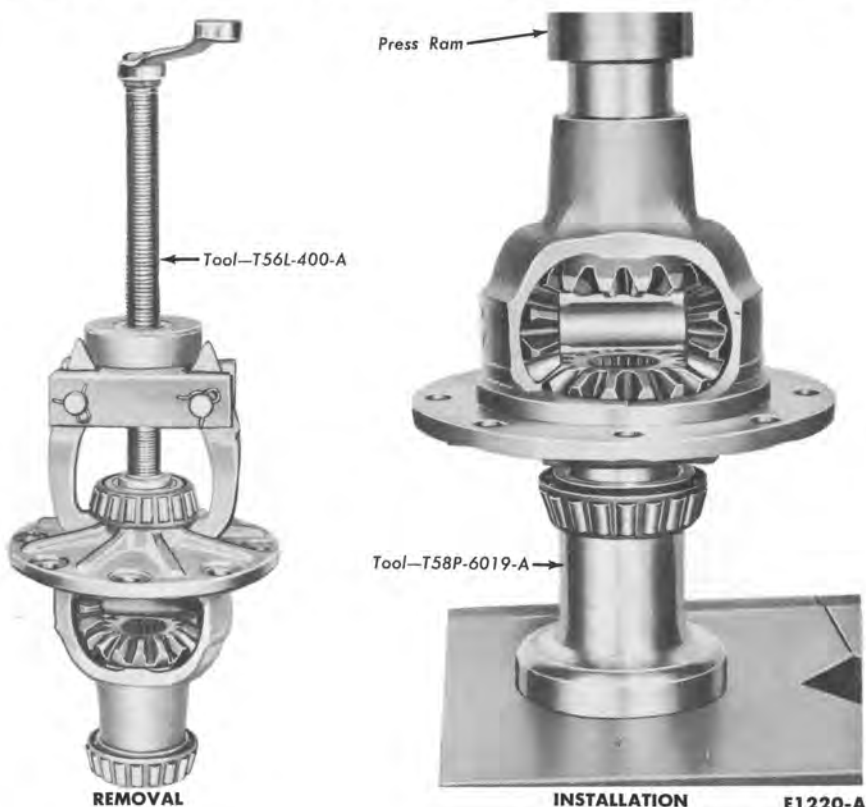

FIG. 13—Differential Bearing Removal and Installation
1. If the differential bearings are to be removed, use the tools shown in Fig. 13 to remove the old bearing and install the new bearings.